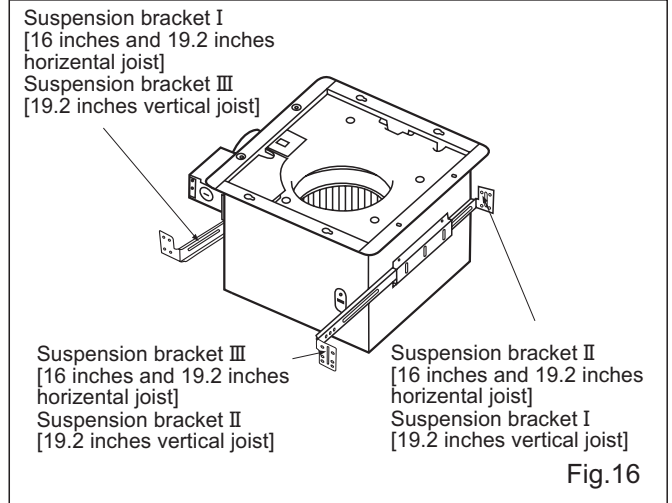

Fig.16
2. Insert the suspension bracket into the bracket cover of adaptor side and the back of the fan body. (Fig.16) (select the suspension bracket according to spacing A as show below)